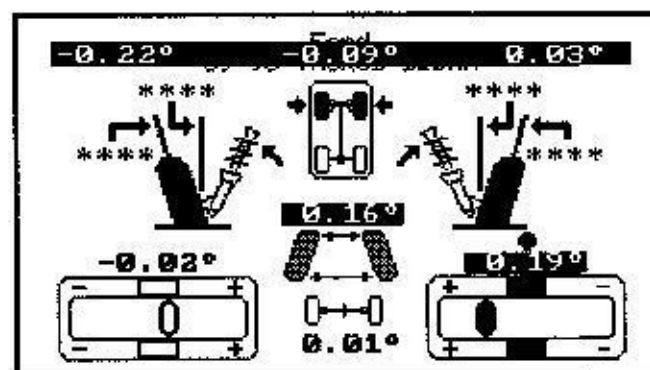

Figure 2-26
Press the ARROW keys to move the dot around the screen to choose the specifications to display. Press ENTER to display the manufacturer's specifications (see Figure 2-26). The minimum, preferred, and maximum specifications appear from right to left inside the bar at the top of the screen. The screen will automatically clear after approximately five (5) seconds. To clear the screen faster, press the CLEAR key.